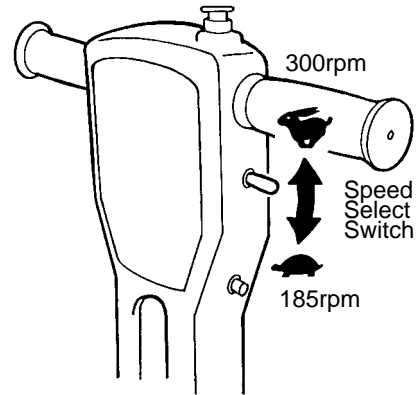

FIG. 4.
2. For Dual Speed Models select desired motor speed. Position switch downward (185rpm) for scrubbing/ stripping OR position switch upward (300rpm) for spray buffing (Figure 4).